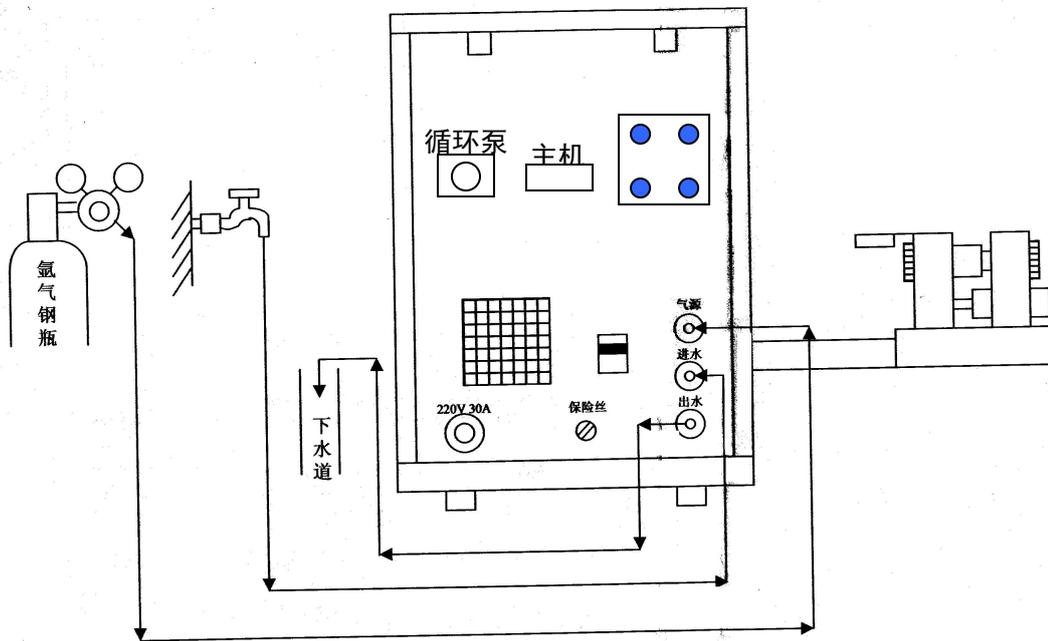

Figure 2-9 Schematic diagram for connecting cooling water port
3. Take out the PVC tube (07-01-609) from the accessories, cut out two appropriate sections according to the distance from the waterhead or drain-pipe to water inlet or water outlet on the back of the graphite furnace controller. Connect one end of one section with the tap water tap (it must be subulate laboratorial tap), the other end with the cooling water inlet of the furnace; connect one end of the other section with the tap water tap (The orifice must aim at sewer of the fountain avoid to spatter), the other end with the cooling water outlet of the furnace, see the Figure 2-9